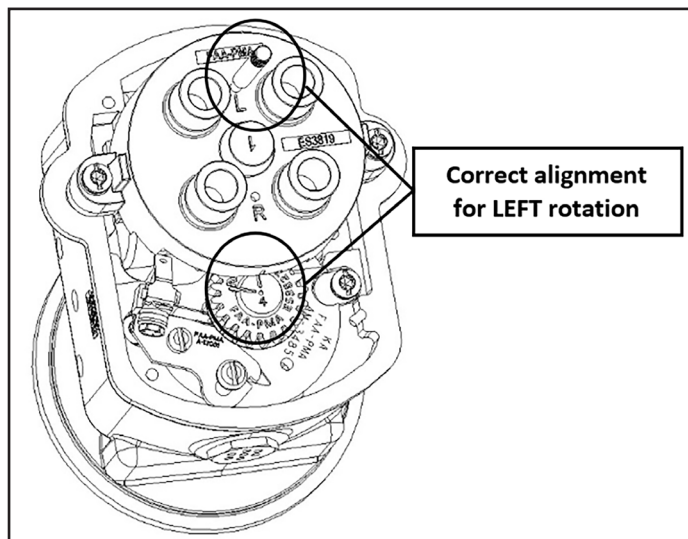

Figure 6.17 – Correct Alignment - Left
- D. Install the distributor block supporting spacers (27d) into the frame (6) of the magneto where the distributor block mounting screws (21) will insert.
- (1) Confirm that the rotor shaft gear (11a) tooth marked “L” is aligned to the high tension lead in the coil (17).
- (2) Install the distributor block supporting spacers (27d) into the frame (6) of the magneto where the distributor block mounting screws (21) will insert.
- (3) Install the distributor block assembly (27) onto the magneto frame (6). The alignment and mesh of the gears is correct if the index mark on the rotor gear (11a) aligns with the reference mark on the distributor block (27a). Refer to Figure 6.17.